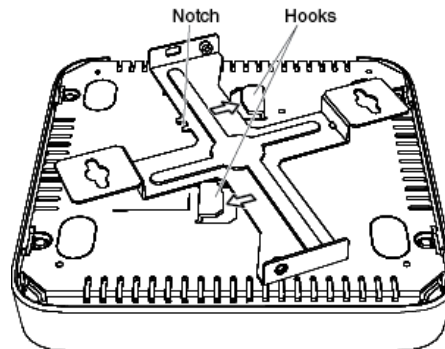

Figure 8. Locking Bracket to Access Point
3. Turn the bracket in the direction of the arrows shown in Figure 8 until the two hooks hold the bracket: The stopper nub pops up, and the bracket locks in place.